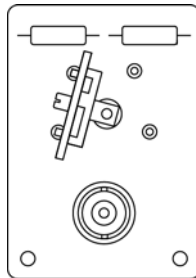

Figure 29 Signal to +Input
- 32 Carefully connect the input of the probe to the test board in the position shown in Figure 29.